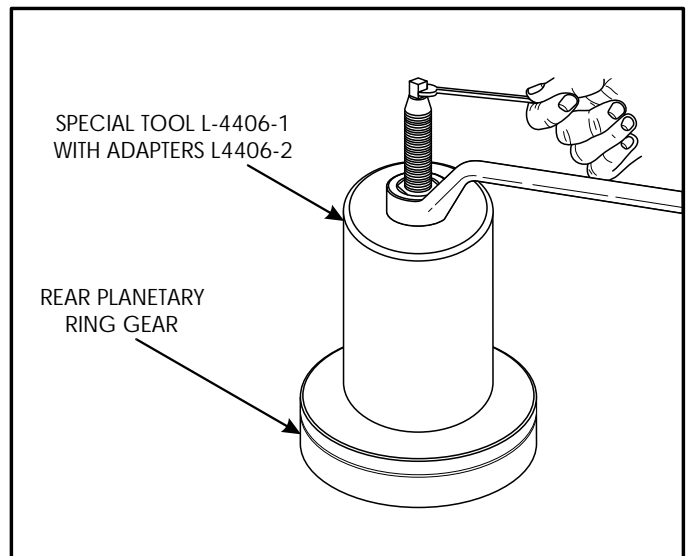

Figure 167
4. Remove bearing cone from the rear planetary ring gear using special tool and adapters, as shown in Figure 167.